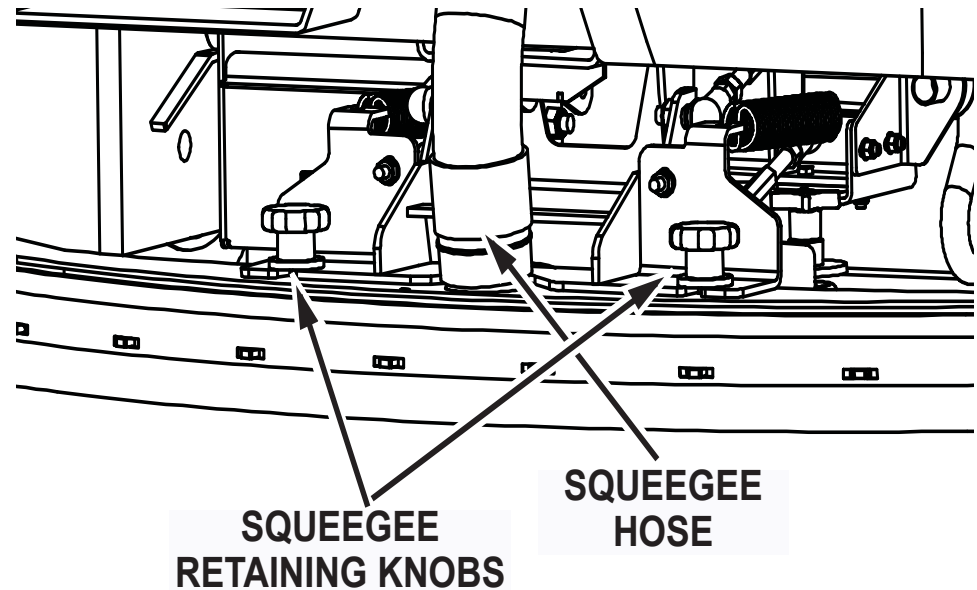

Fig. 1: Turning/Replacing the Rear Squeegee Blades
4. Loosen the two squeegee retaining knobs. (See Fig. 1)
5. Pull the lower end of the squeegee hose from the squeegee tool. (See Fig. 1)